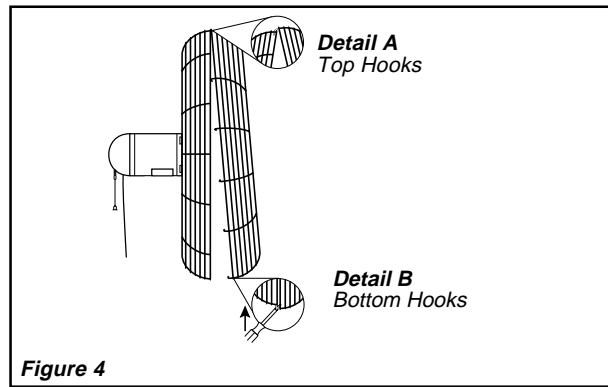

Figure 4
9. Hold the Front Grill so that the name, in the center, is right side up and straight across. **Starting at the top:** Fasten Front Grill to Rear Grill by sliding the Hooked Wires on the Front Grill over the Outermost Ring on the Rear Grill. (Figure 4 / Detail A)
The bottom most Hooks will require the use of a Flathead Screwdriver to complete assembly. Stand behind Fan. Slip the Flat of the Blade between the Front and Rear Grills, next to one of the unfastened Hooks. (Figure 4 / Detail B) Pull Screwdriver handle upwards towards the Rear Grill. Slip the Front Grill Hook over the Rear Grill Outer Ring with a push. Repeat procedure with remaining Hooks. Caution: Be careful not to bend any wires on Grills or pinch your hands during assembly.